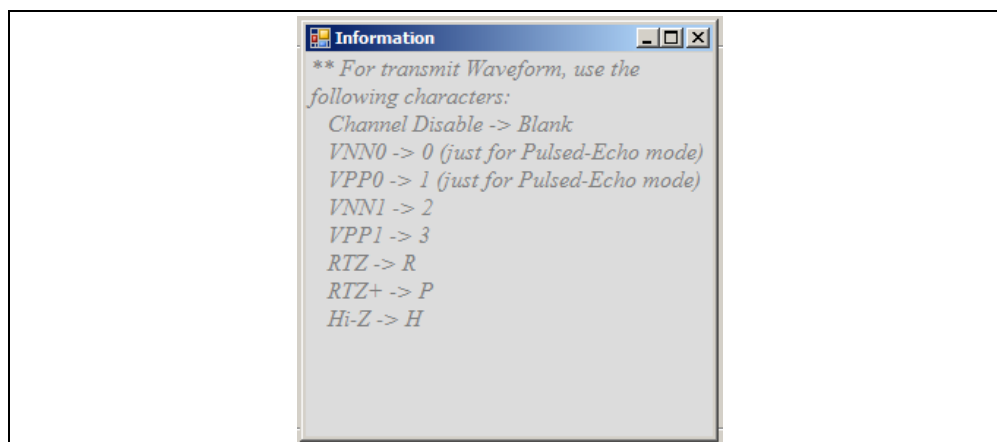

FIGURE 3-9: Information Pop-Up Window.
- clicking the **Help** button opens the **Information** pop-up window. See Figure 3-9.